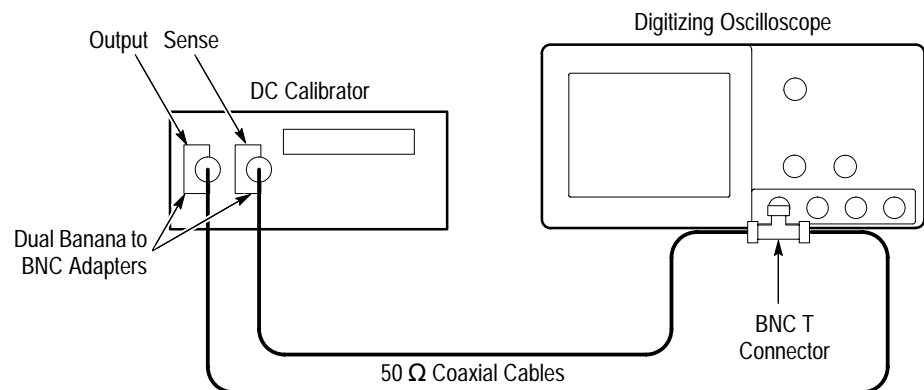

Figure 4–12: Initial Test Hookup
- **CHECK** that the rising edge of the waveform crosses the center horizontal graticule line at a point within  $\pm 0.5$  divisions of the center graticule (see Figure 4–11).
- Connect the Sense output of the generator, through a second dual-banana connector followed by a 50  $\Omega$  precision coaxial cable, to the other side of the BNC T connector. Now connect the BNC T connector to **CH 1** (see Figure 4–12).